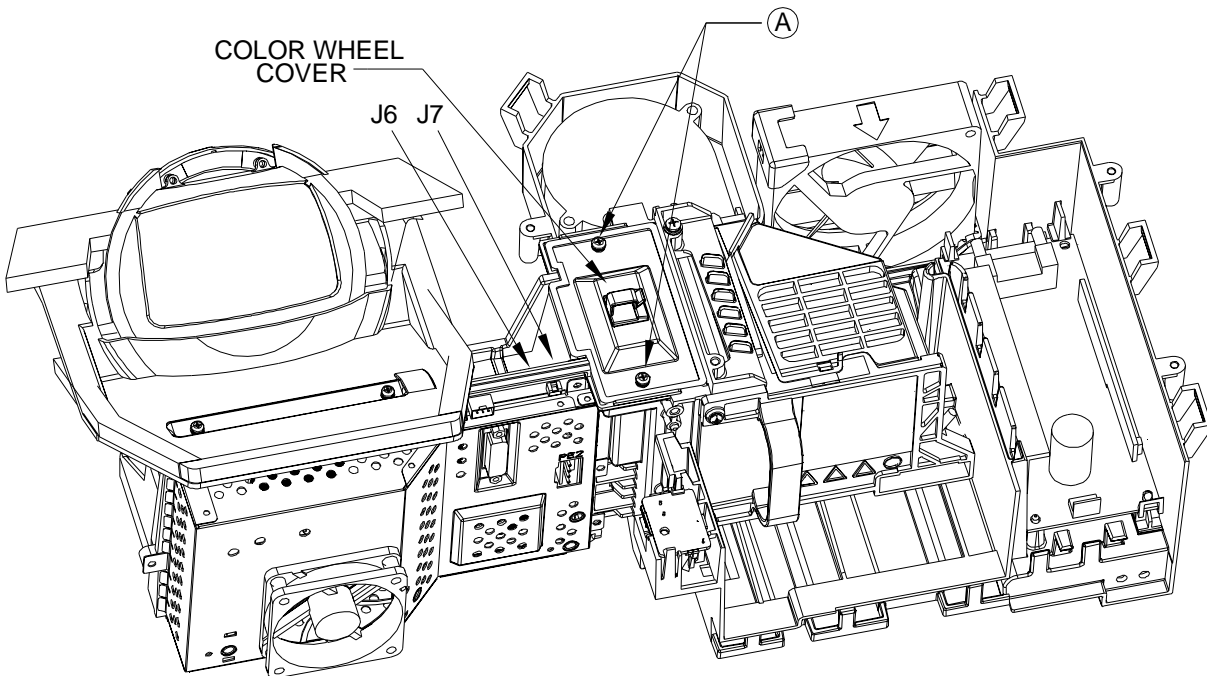

Figure 1: Color Wheel Cover and Connectors
- 3) Remove the 2 screws (A) shown in *Figure 1*.
- 4) Disconnect the 2 connectors J6 & J7 shown in *Figure 1*.